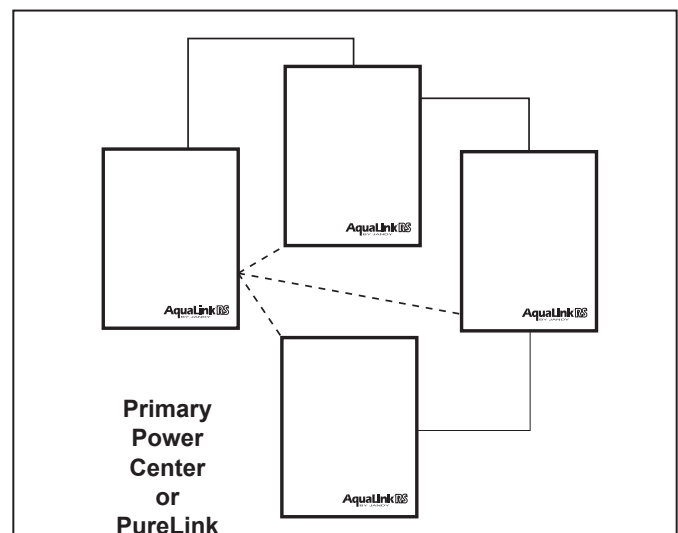

Figure 21. Wiring Multiple Power Centers
1. The auxiliary power centers may be wired "in series", starting from the primary power center (solid line) or wired "in parallel" from the primary power center (dashed line). See Figure 21.